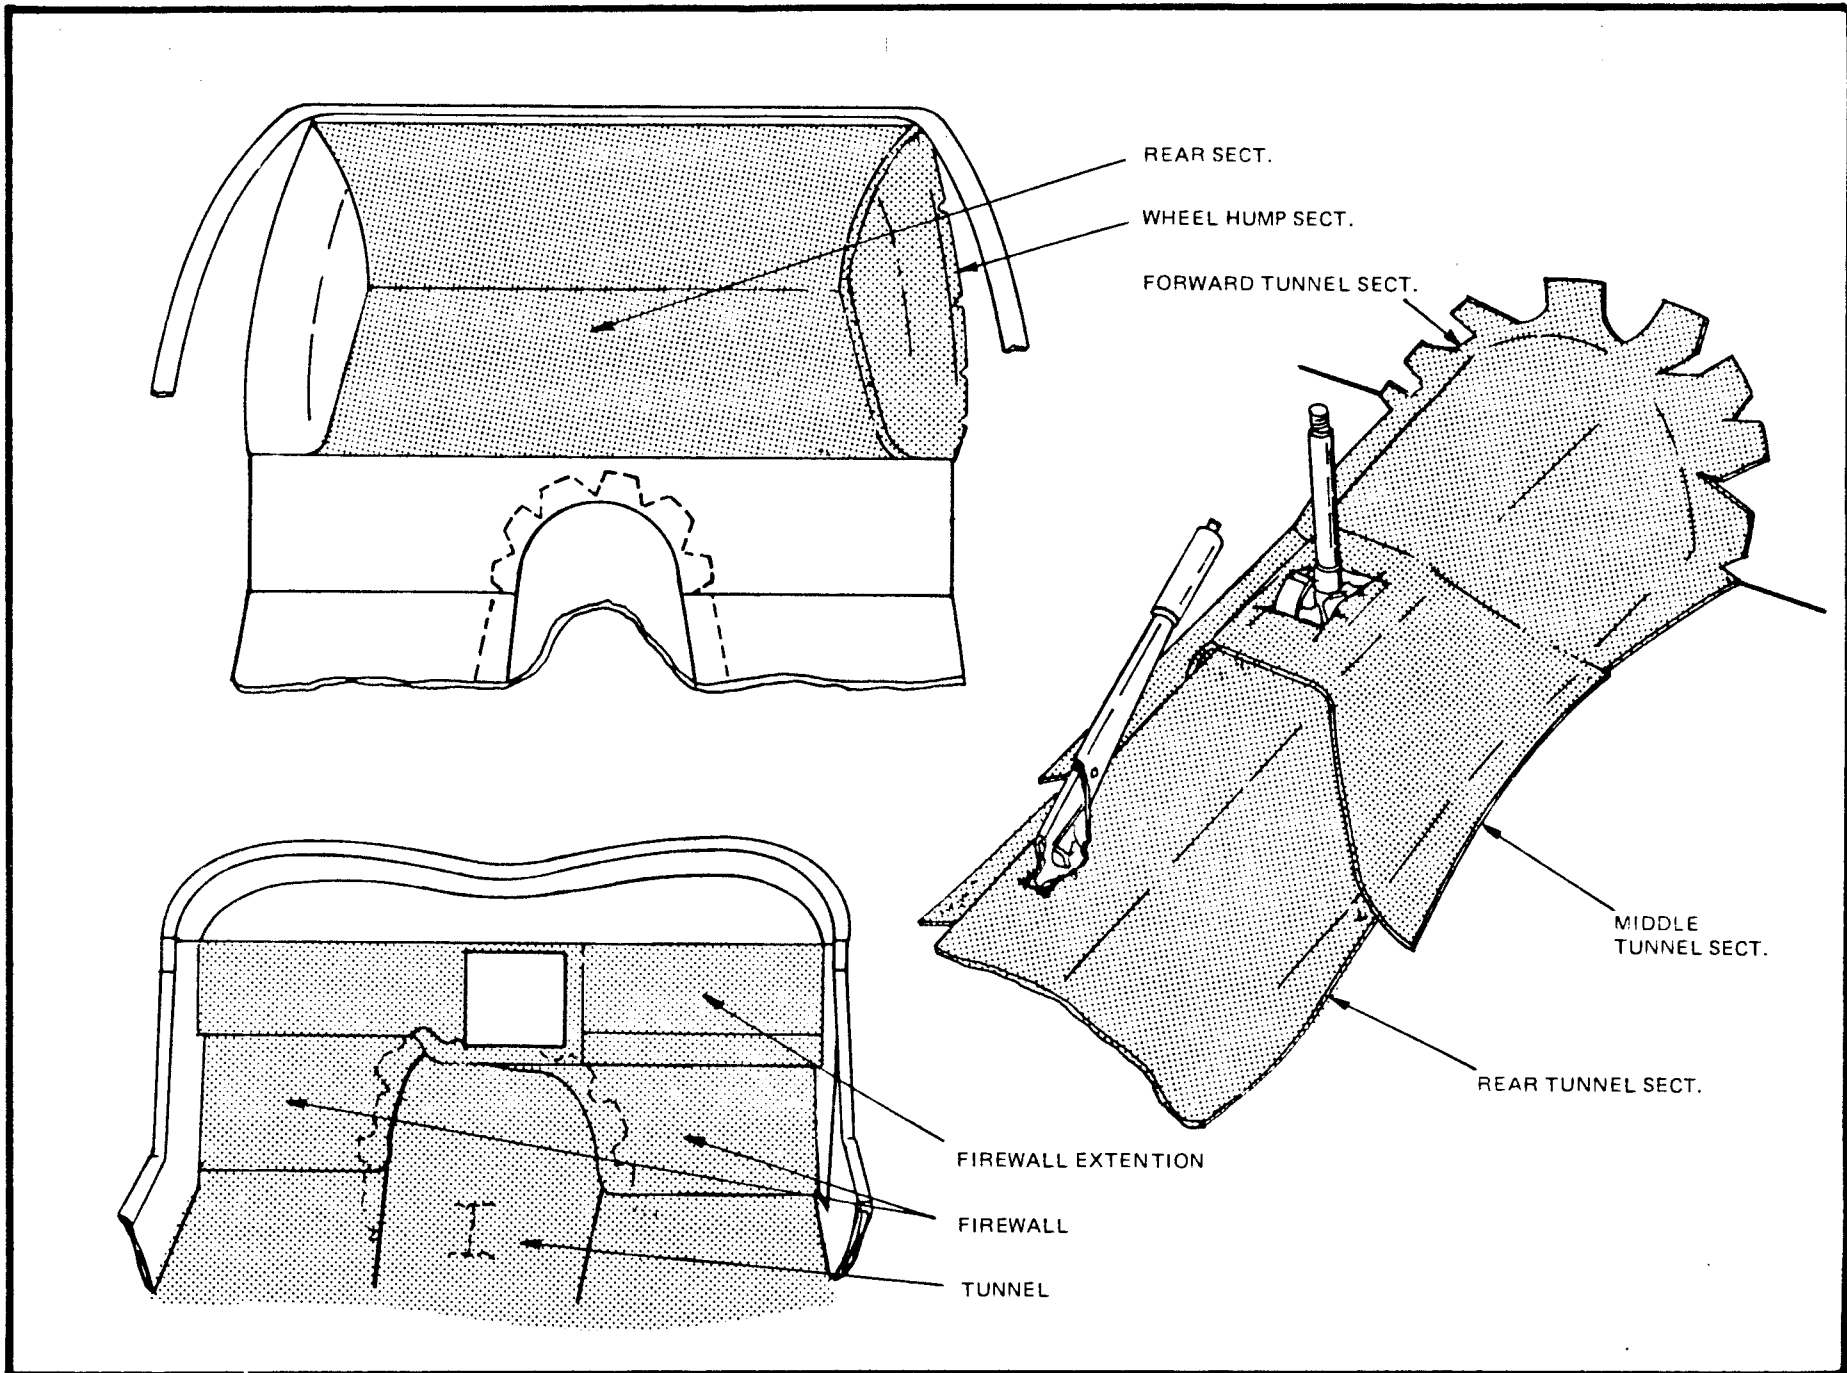

Figure 70
- The first pieces to be installed are the wheel hump sections. (Figure 70) Using spray glue or contact cement, glue the section in place, notching where necessary to allow it to lay flat.
- Fit the rear section in place. Align side edges with wheel humps and rear with top of body. (Figure 70) Glue in place, spreading glue on back and bottom of body. Do not glue corners or part of carpet that drops down toward floor. They will be glued in a later step.